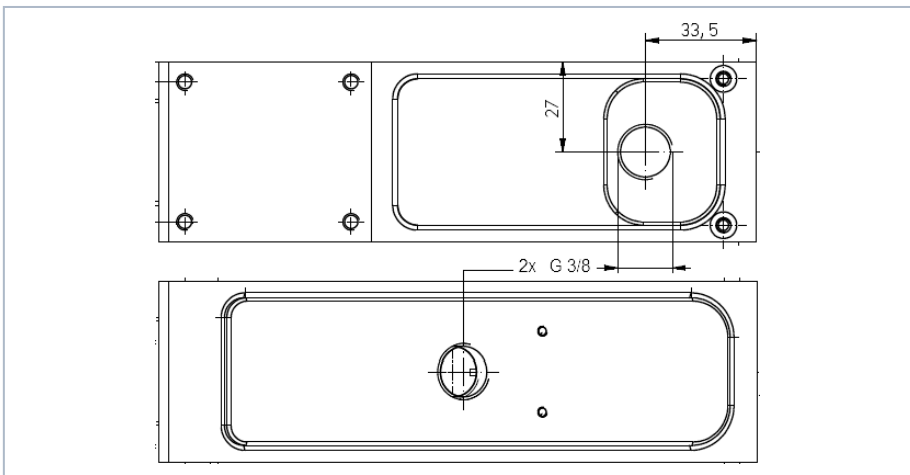

Fig. 4.1: 2 ELSA push-in fittings in the G 3/8 inch threaded holes
2. Connect the 2 ELSA push-in fittings with the on-site water supply (see Fig. 4.1 on Page 11).